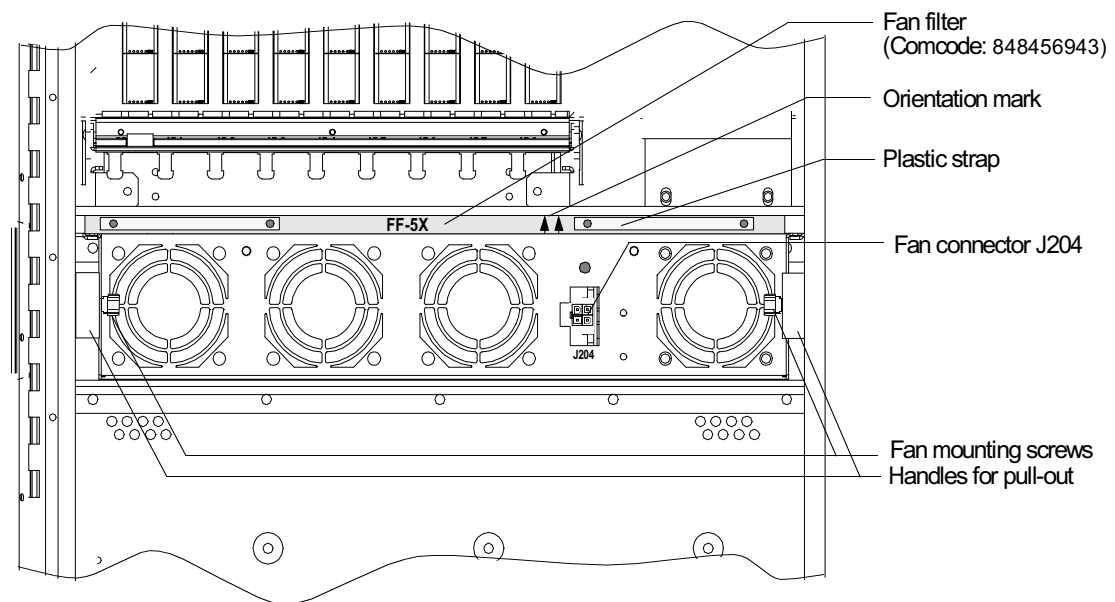

Figure 9-1 Position of the fan unit with the fan filter and the mounting elements
- Step 1 Locate the fan filter directly above the fan unit. Pull the filter out using the two plastic loops illustrated in Figure 9-1 below.
- Step 1 Referring to Figure 9-1, locate the filter cable connector J204 on the right side of the fan unit and disconnect.